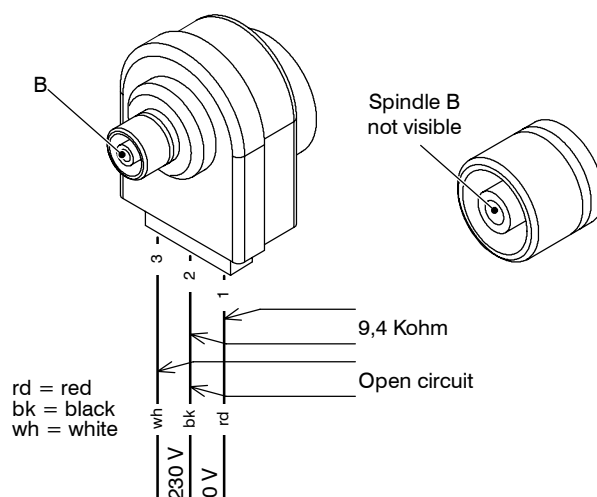

Fig. 8.2 – D.h.w. mode
Fig. 8.2 indicates the relationship between the electric command coming from the electronic control p.c.b. and the position of the actuator B (brass spindle) when the boiler operates in **d.h.w. mode**.
- Reassemble the actuator carrying out the removal operations in the reverse order. When reassembling the actuator, refer to Fig. 8.2 or to the wiring diagram in section 3.1 for the correct wiring connection.